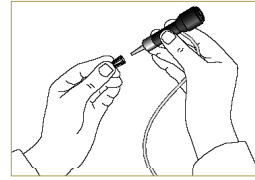

Figure D-3: Firmly press new pipette tip onto pipettor
2. Fit a new, disposable plastic pipette tip over the metal end of the pipettor (Figure D-3). Be sure to push it on firmly.